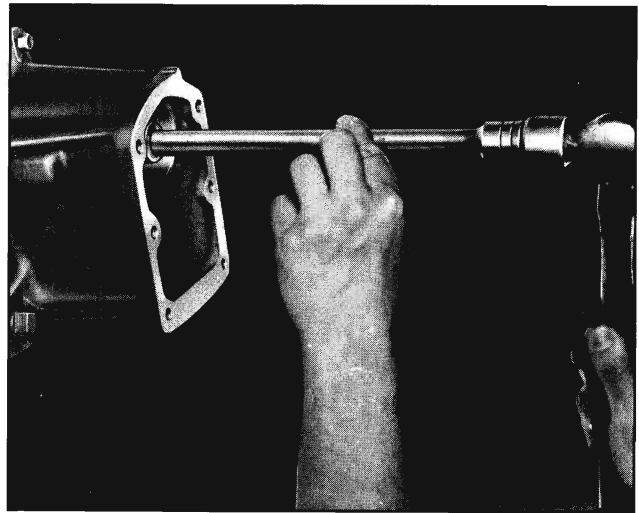

Fig. 7-23 Installing Rear Bearing
1. Install rear bearing with suitable socket (rides on outer race) and extension (Fig. 7-23).